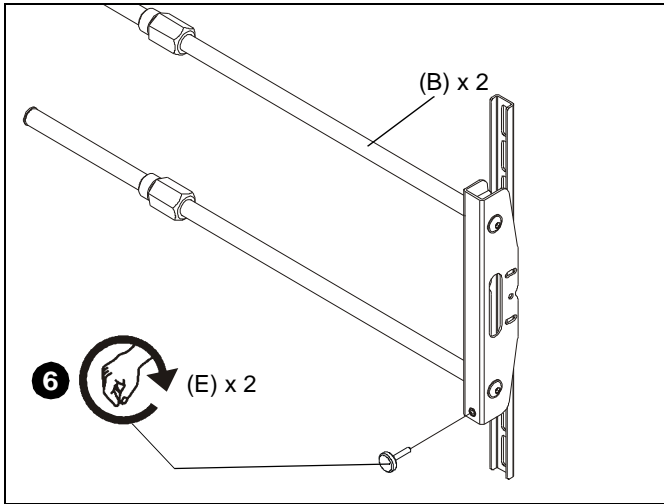

Figure 5
6. Install and tighten the thumb screw (E) on each rail extension (B). (See Figure 5)